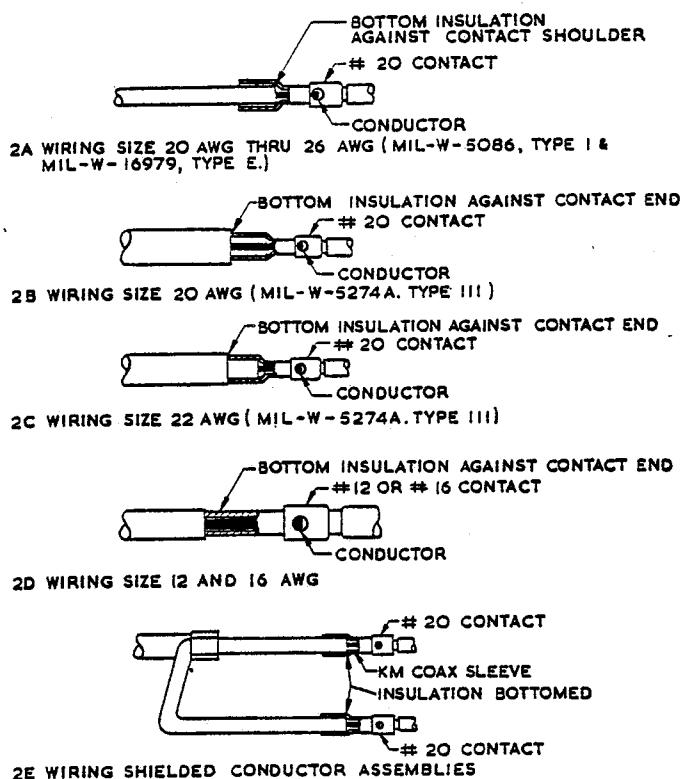

Fig. 13. Assembly of cable and contacts
27. When stripped wires are inserted into terminal ends of contacts, care should be taken before crimping, to ensure the following: The insulation should bottom against the contact shoulder or against the end of the contact as shown in fig.13.
28. All strands of the conductor are to be in the contact crimp pot as shown in fig.13. To verify this, the conductors can be seen through the inspection hole in the contact, when they are properly inserted.